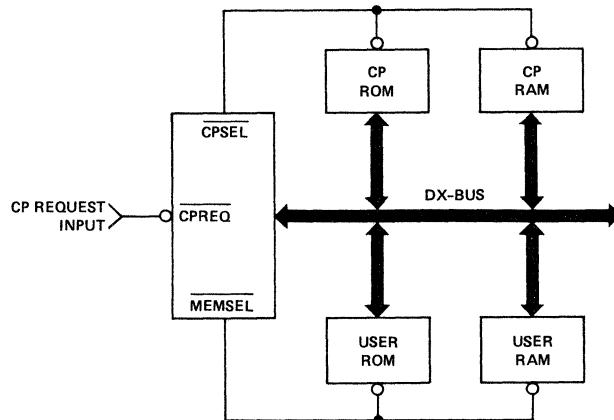

FIGURE 11 – Control Panel Block Diagram
The HM-6100 CPU provides a unique Control Panel (CP) feature through its CPREQ input and CPSEL output lines. After acknowledging the control panel request, the CPU generates the necessary timing to execute program code in CP memory while also providing the capability to transfer data between CP memory and the user memory using the AC as a buffer. This allows the user memory to be examined and/or modified by the CP software. The CPU will output the MEMSEL signal for all user memory references while the CPSEL signal is generated for CP memory references as shown in Figure 11.